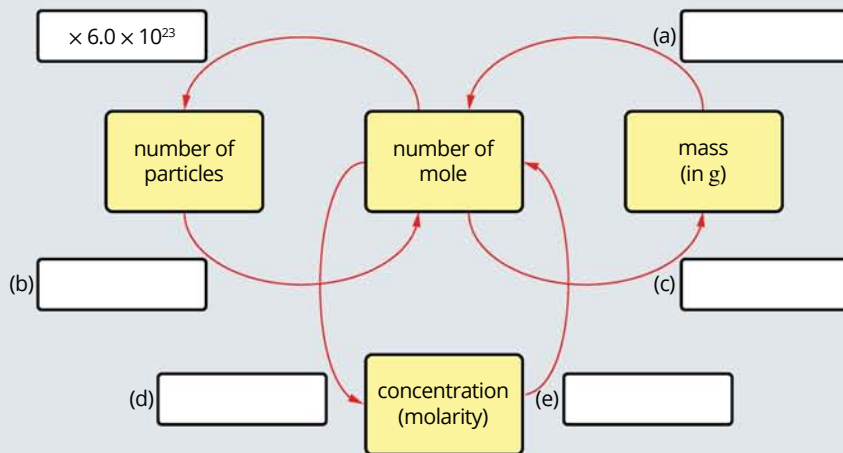

FIGURE 14.6.1 Converting quantities and calculating concentration.
- 19 Copy and complete the diagram in Figure 14.6.1 by inserting into the white boxes the processes required to convert between the quantities in the yellow boxes. The answer to the top left box is given to you.